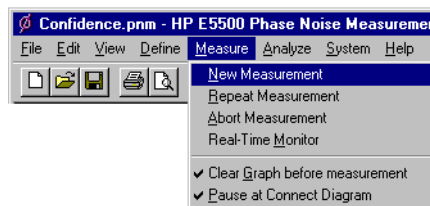

Figure 3-5 Navigating to the New Measurement Window
- 1 From the **Measure** menu, choose **New Measurement** (Figure 3-5).